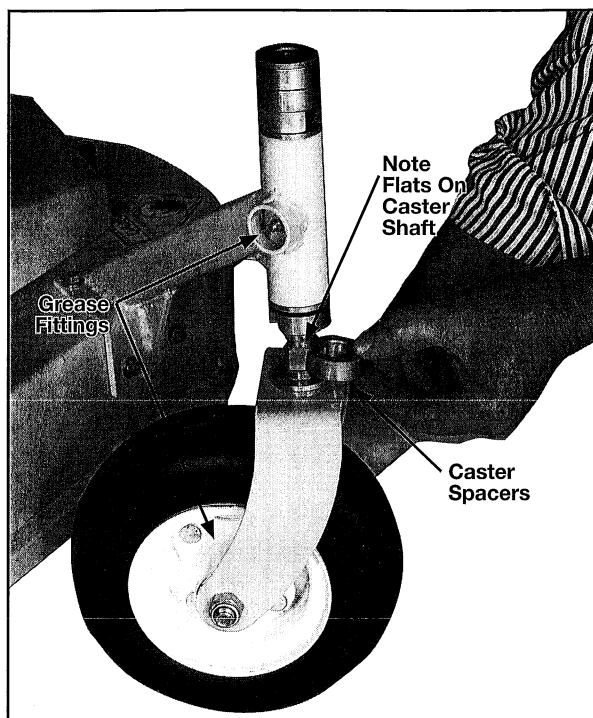

FIG 12 Repositioning Caster Spacers
1. Raise and block front of Mower Deck, remove Snap Pin and Flat Washer, FIG 12. To raise height of cut, lower Caster Wheel Yoke 3-4", lift off Spacer from top and place on the underside of the Caster Wheel Bracket.